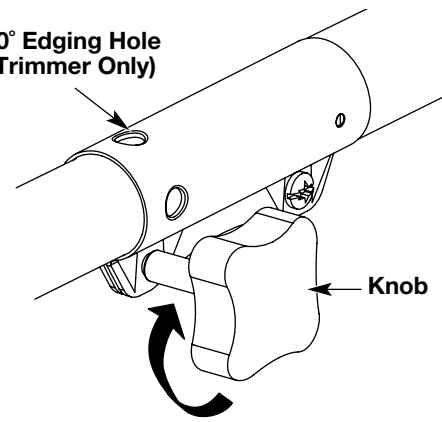

Fig. 17
3. Turn the knob clockwise to tighten (Fig. 17).
For edging (when using the line head cutting attachment with Rapid-Link™ models), lock the release button of the cutting attachment into the **90° edging hole** (Fig. 17).